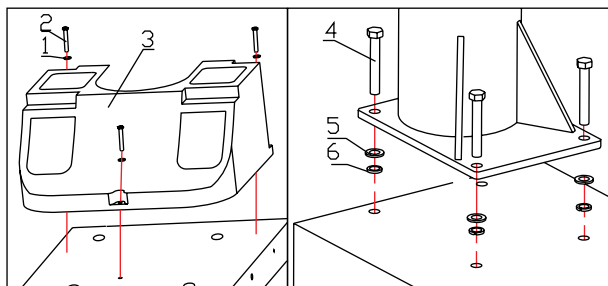

Figure 5-1
- Unscrew the pallet fixing screws(1), washers(2) and box(3)(figure 5-1)
- Unscrew the pallet fixing screws (4) lock washers (5) washers (6) (figure 5-1)